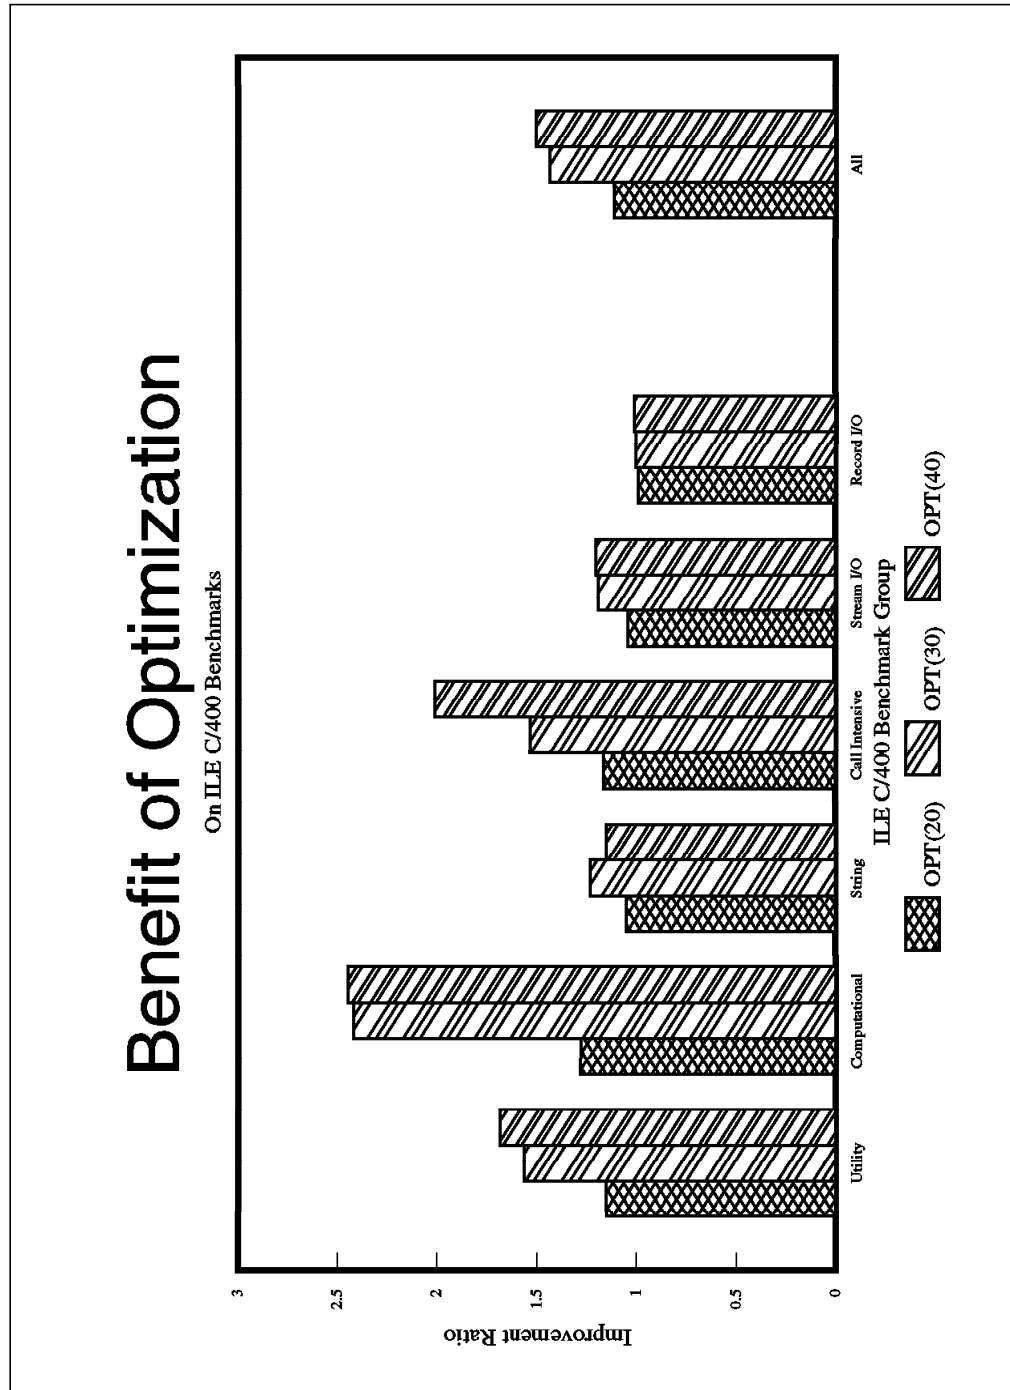

Figure 45. Comparison of ILE C Optimization Benefit
The benefits of optimization for C are shown in Figure 45 on page 166. The measurements are ratios to optimization level (*NONE) or (10). OPT(10) is represented as the value 1.0 on the y-axis.